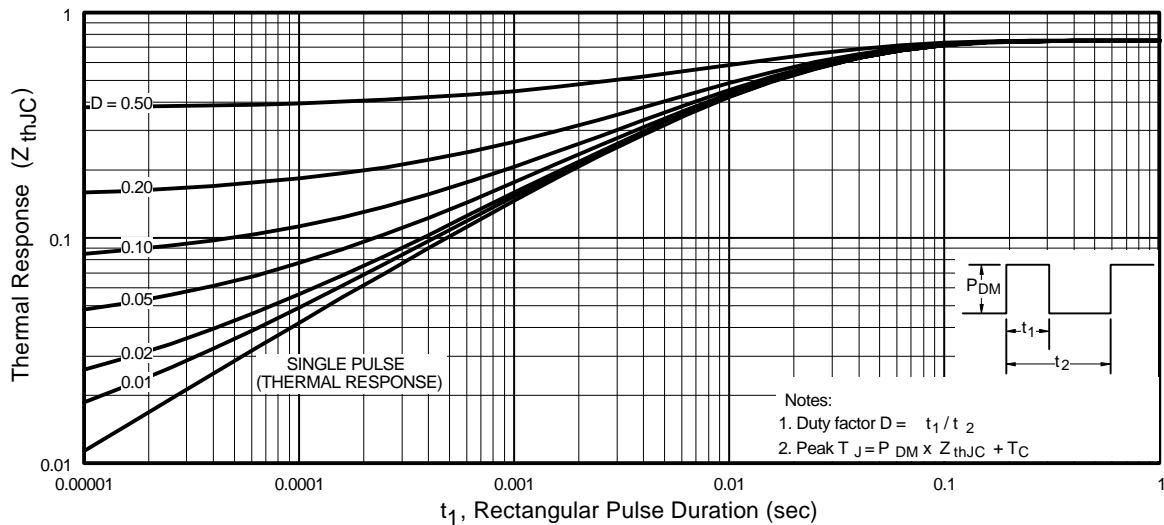

Fig 11. Maximum Effective Transient Thermal Impedance, Junction-to-Case
- ① Repetitive rating; pulse width limited by max. junction temperature. (See fig. 11)
② $V_{DD} = 25V$, starting $T_J = 25^\circ\text{C}$, $L = 240\mu H$